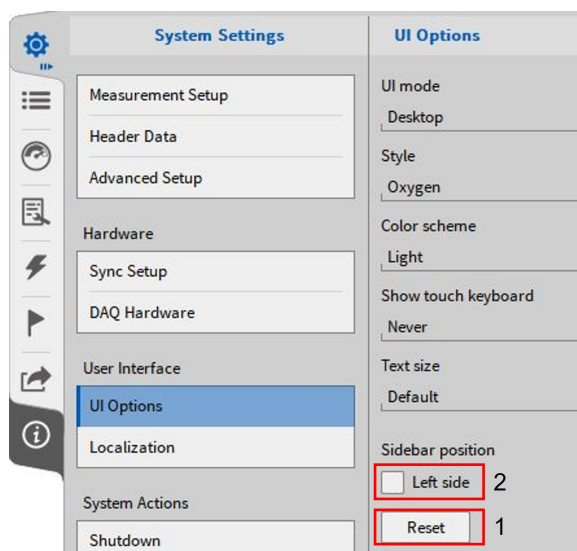

Fig. 3.20: Sidebar position reset
- The user may find it difficult to place the menus back in the default order once a change has been made. To reset the position of your menus, head into *System Settings* > *UI Options* and select the *Reset* button found under the *Sidebar position* section (see ① in Fig. 3.20).
- The user can also swap the right and the left sidebar. To do so, head again into *System Settings* > *UI Options* and select *Left side* under the *Sidebar position* (see ② in Fig. 3.20).